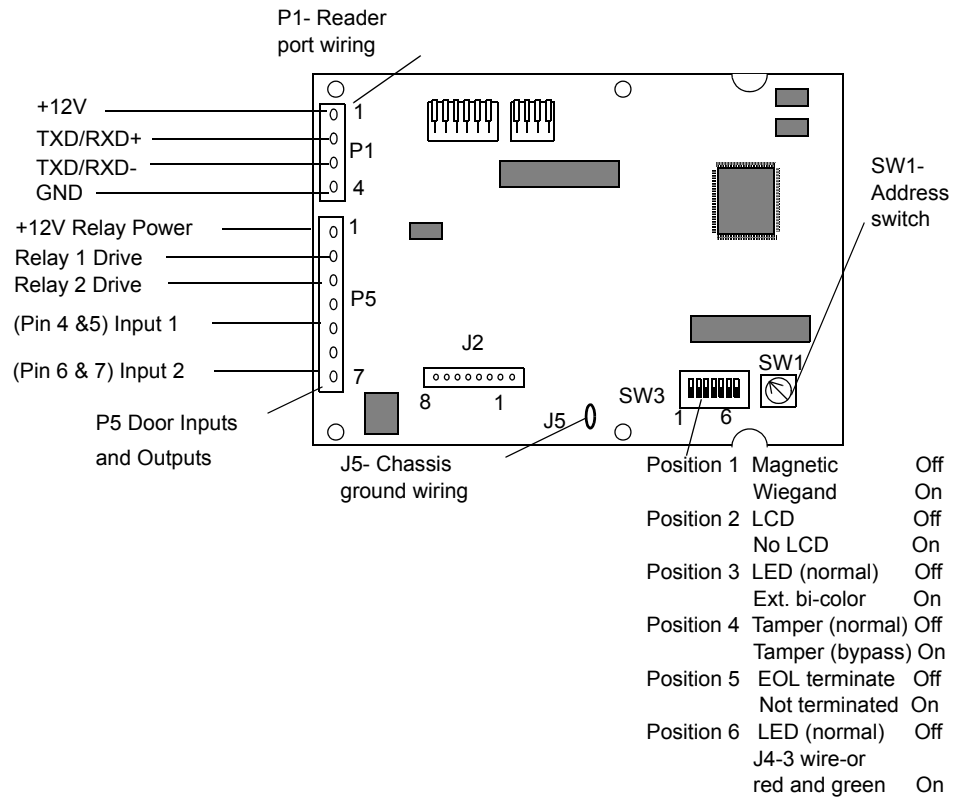

FIGURE 3. RM-4 Wiring Requirements
**Wiring the Components** Figure 3 shows RM-4 wiring.